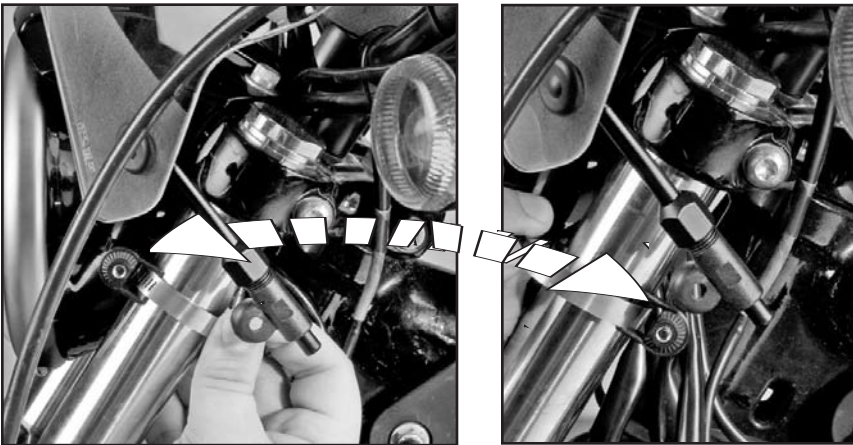

Figure 4
8. Slide the Left Collet Tube onto the Left Lower Rod. Determine where to mount the Fork Boss. **Figure 4 and 4a**
9. Thread one Fork Boss through a hose clamp. Loosely attached Hose Clamp to fork. Screw head of Hose Clamp faces to the rear of the motorcycle. (Flat Blade Screw Driver) **Figure 4 and 4a**